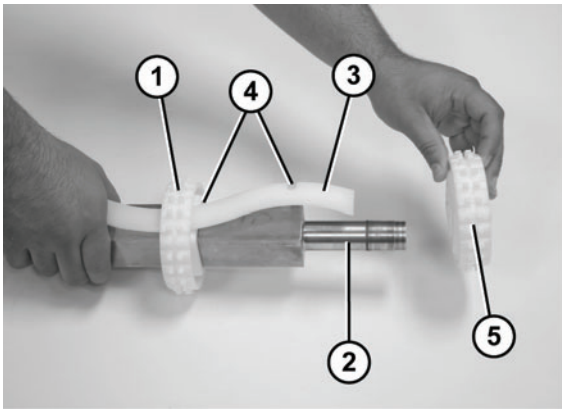

Figure 82
1. Slide the first sprocket (**Figure 82, item 1**) onto the drive spindle (**Figure 82, item 2**).
2. Insert the sprocket alignment bar (**Figure 82, item 3**) into the first sprocket and align the sprocket with the notch (**Figure 82, item 4**) in the sprocket alignment bar.
3. Slide the remaining sprockets (**Figure 82, item 5**) onto drive spindle and align each sprocket with the notches (**Figure 82, item 4**) in the sprocket alignment bar.